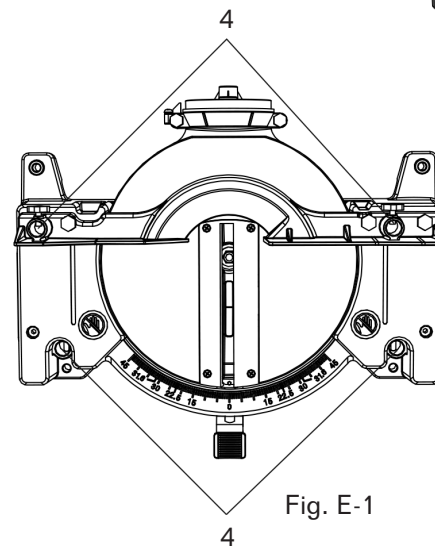

Fig. E-1
1. Loosen the lock knob (1) from the rear side of the saw base (2). (Fig. E).
2. Place the hold-down clamp (3) in one of the mounting holes (4) as shown in Fig. E-1.
3. Tighten the lock knob (1).